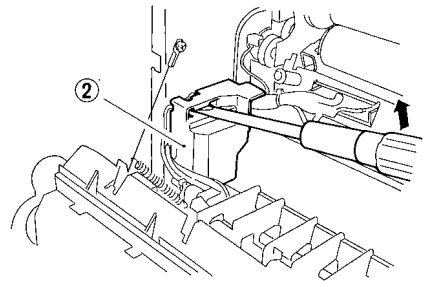

Figure 4-702
- 4) Detach the connector cover ②; use a flat-blade screwdriver as shown in Figure 4-702.